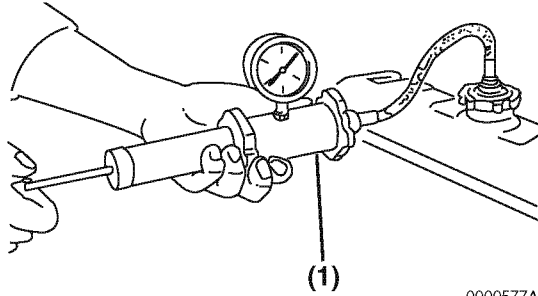

Figure 8-3
1. With the radiator properly filled, install a cooling system tester (Figure 8-3, (1)).